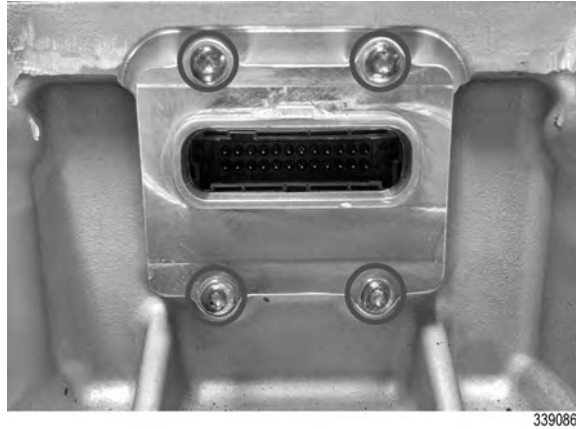

Figure 7. Signal Interface Card Mounting Screws
3. Using a Torx-Plus® T20 bit, remove the four (4) M4x14mm screws securing the signal interface card (refer to Figure 7) to the DPIM housing and remove the card. Discard the signal interface card and the EMI gasket in the mounting flange of the card.